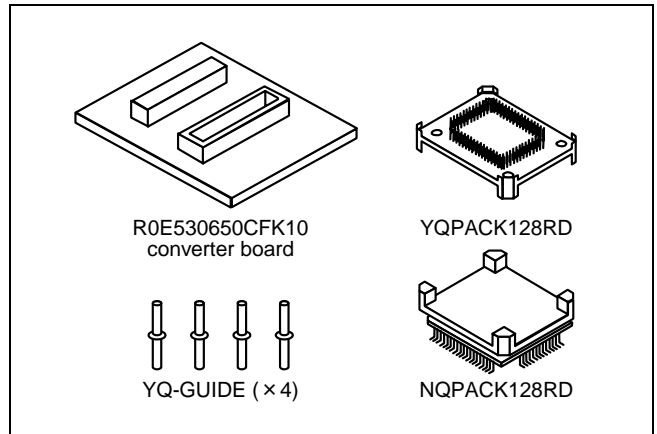

Figure 1 Package components of the R0E530650CFK10
2. Package Components (See Figure 1)